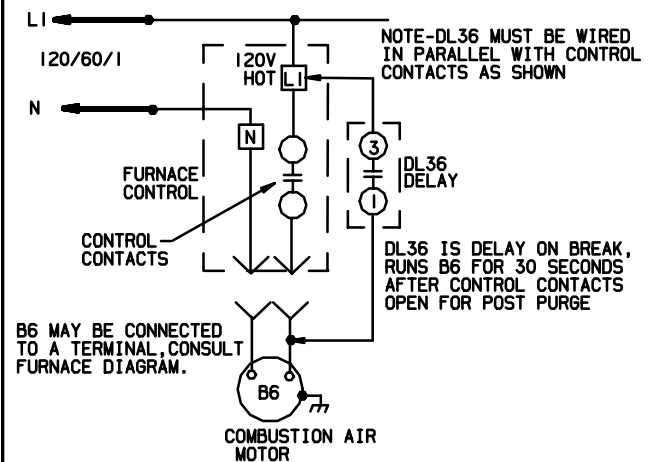

FIGURE 1
- 3 - Connect one of the provided red wires to terminal 1 on the timer and to the combustion air inducer motor (B6). See figure 1.
- 4 - Connect the other provided red wires to terminal 3 on the timer and to the 120VAC HOT terminal on the unit control board. See figure 1.